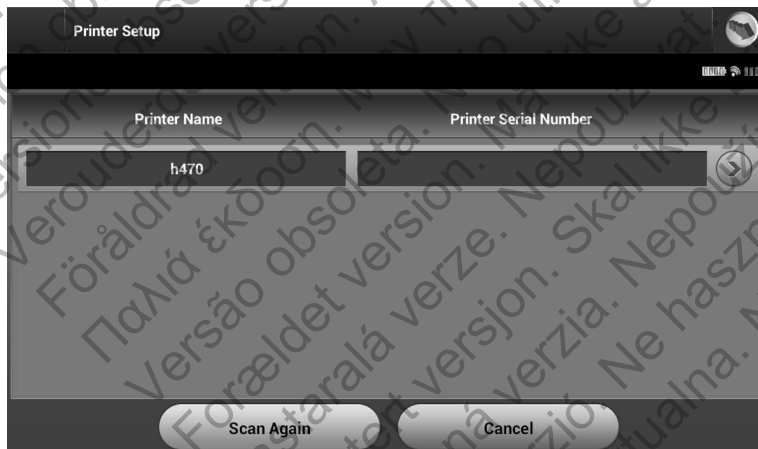

Figure 10: Printer Setup screen
2. Select Printer Setup on the Programmer Settings screen. A previously configured printer becomes the default printer and will be displayed at this time. If a default printer has not already been selected and configured, the Printer Setup screen (Figure 10) will be empty and the programmer will scan the area to locate wireless printers. A Scan Progress Bar will appear informing the user that the programmer is currently scanning for printers.
3. Select the printer of choice from among those found during the scan (Figure 10). If none were found, a window will appear stating that there are no printers. Select the Try Again button or the Cancel button to return to the Programmer Settings screen.